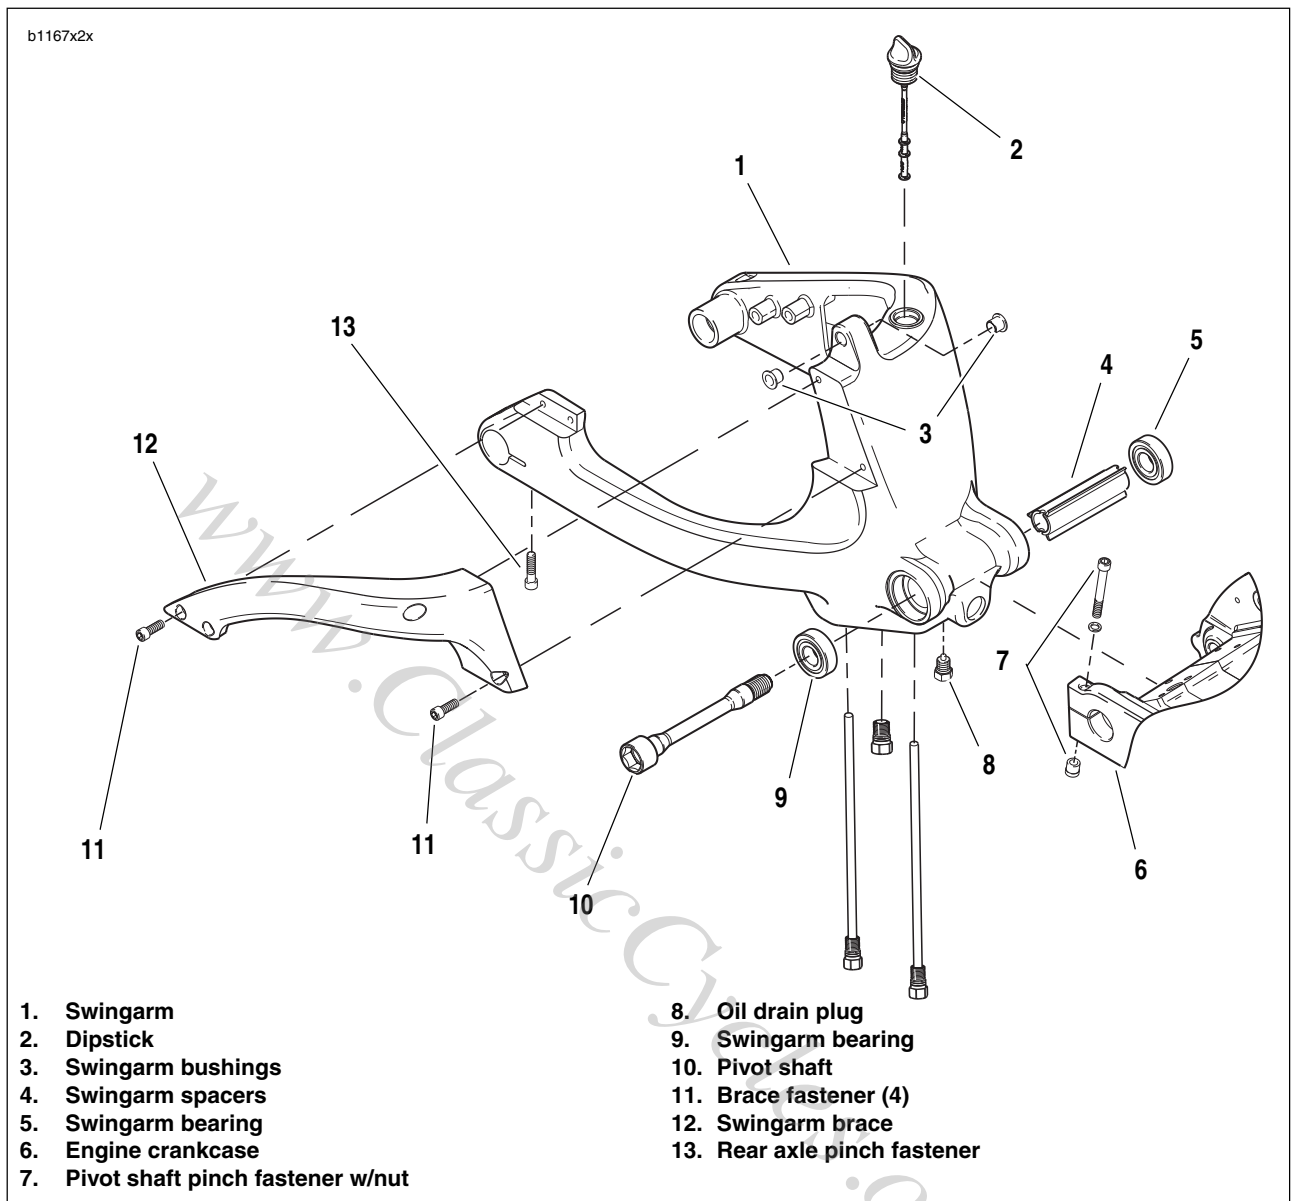
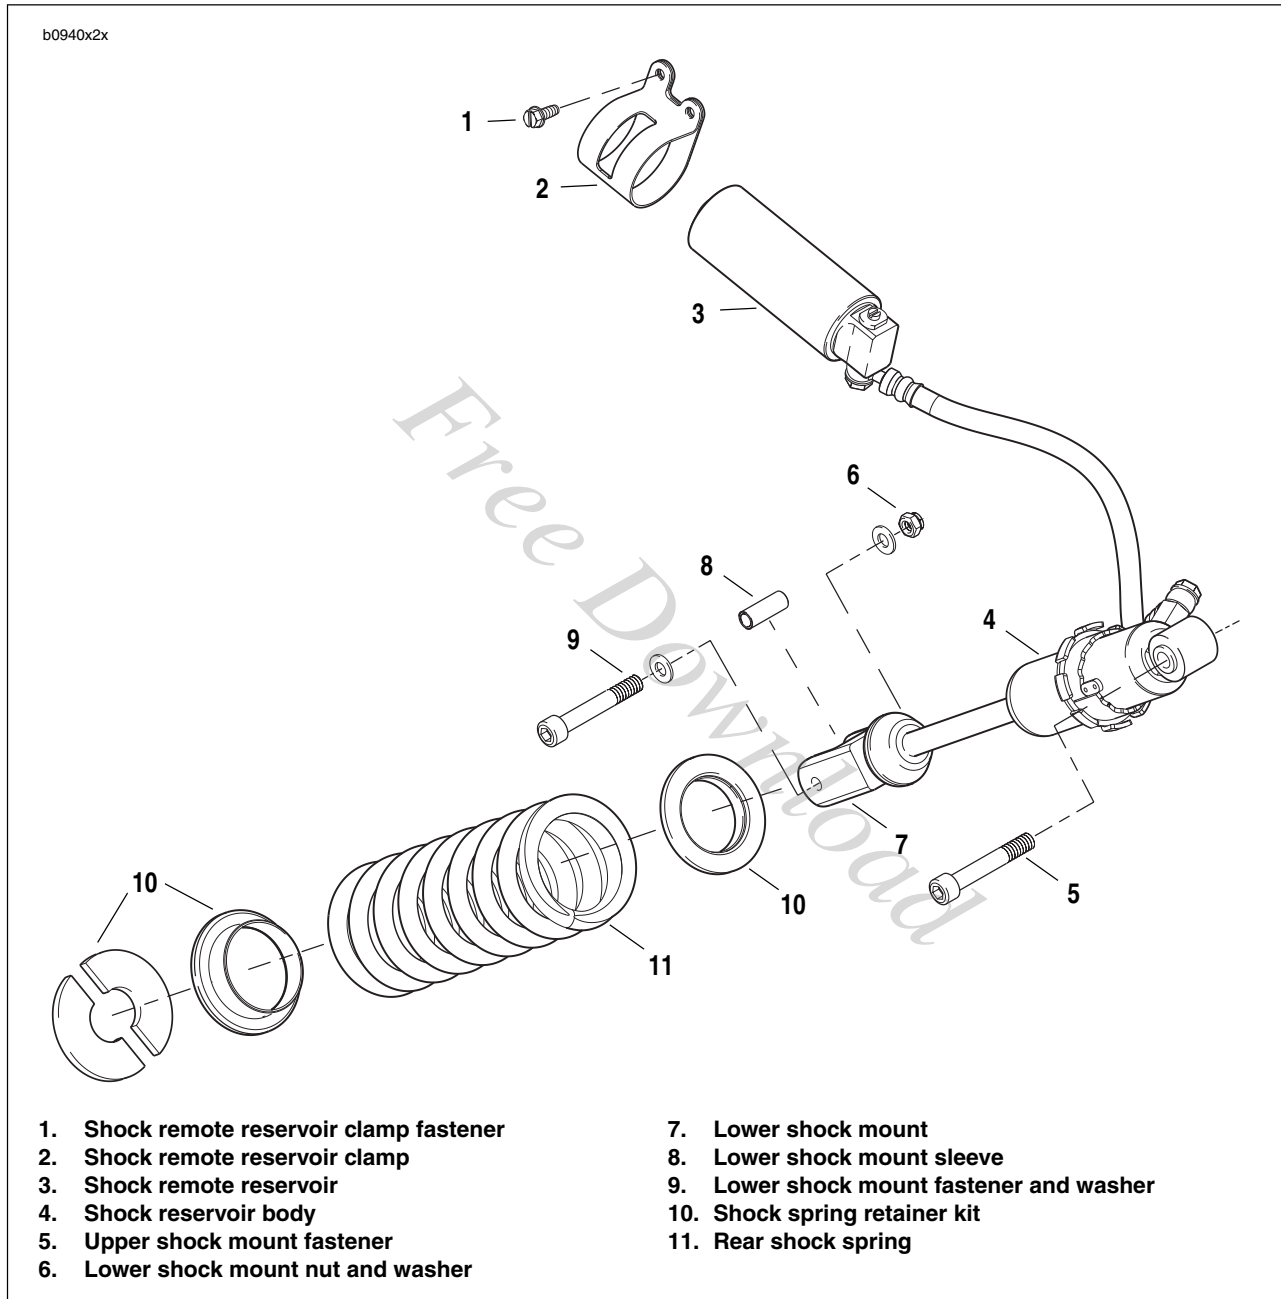

Figure 2-83. Swingarm Assembly
Figure 2-89. Rear Shock Absorber Assembly
4. See Figure 2-83. Remove swingarm brace mounting fasteners (11, 12).
5. Remove swingarm brace (13).
3. See Figure 2-83. Remove oil drain plug (8) and drain oil from swingarm. See 1.6 ENGINE LUBRICATION SYSTEM.
8. See Figure 2-83. Loosen pivot shaft pinch fastener (7).
9. Remove pivot shaft (10) with a special 7/8 in. hex tool located in tool kit.
2. See Figure 2-83. Remove swingarm bearings (5, 9) using slide hammer (SNAP-ON Part No. CJ1275 or equivalent) and 3/4 in. bearing remover and spacer.
3. Remove shock mount bushings (3) and sleeve.
See Figure 2-83. Remove swingarm bearings (5, 9) only if replacement is required. The complete bearing assembly must be replaced as a unit when replacement is necessary. Do not intermix bearing components.
1. See Figure 2-83. Install **new** shock mount bushings (3).
2. Install **new** bearings (5, 9) and spacer (4) with BEARING INSTALLER (Part No. HD-44060) by lightly seating spacer.
4. See Figure 2-83. Install drain plug (8). Tighten to 29-31 ft-lbs (39-42 Nm).
1. See Figure 2-83. Align swingarm (1) in pivot of engine crankcase (6).
2. Install pivot shaft (10) with a special 7/8 in. hex tool located in tool kit, ANTI-SEIZE and tighten to 24-26 ft-lbs (32-35 Nm).
3. Apply LOCKTITE 272 and tighten pivot shaft pinch fastener (7) to 17-19 ft-lbs (23-26 Nm).
4. See Figure 2-89. Install lower shock absorber mounting fastener (7) and spacer from shock absorber and swingarm and tighten to 15-17 ft-lbs (20.3-23 Nm).
3. See Figure 2-83. Install swingarm brace (12) with swingarm brace mounting fasteners (11) loosely. Do not tighten.
4. Tighten swingarm brace fasteners (11) to 25-27 ft-lbs (34-37 Nm).
6. Tighten rear axle pinch fastener (13) to 40-45 ft-lbs (54-61 Nm).
5. See Figure 2-89. Remove upper shock (5) and lower shock mount fasteners (6 and 9) and lower shock mount sleeve (8).
6. Remove rear shock reservoir clamp (2).
1. See Figure 2-89. Install upper shock mount and tighten fastener (5) to 49-51 ft-lbs (66-69 Nm).
2. Install lower shock mount with fasteners (6, 9) and lower shock mount sleeve (8) and tighten to 15-17 ft-lbs (20.3-23 Nm).
See Figure 2-89. Verify compression dial is facing up.